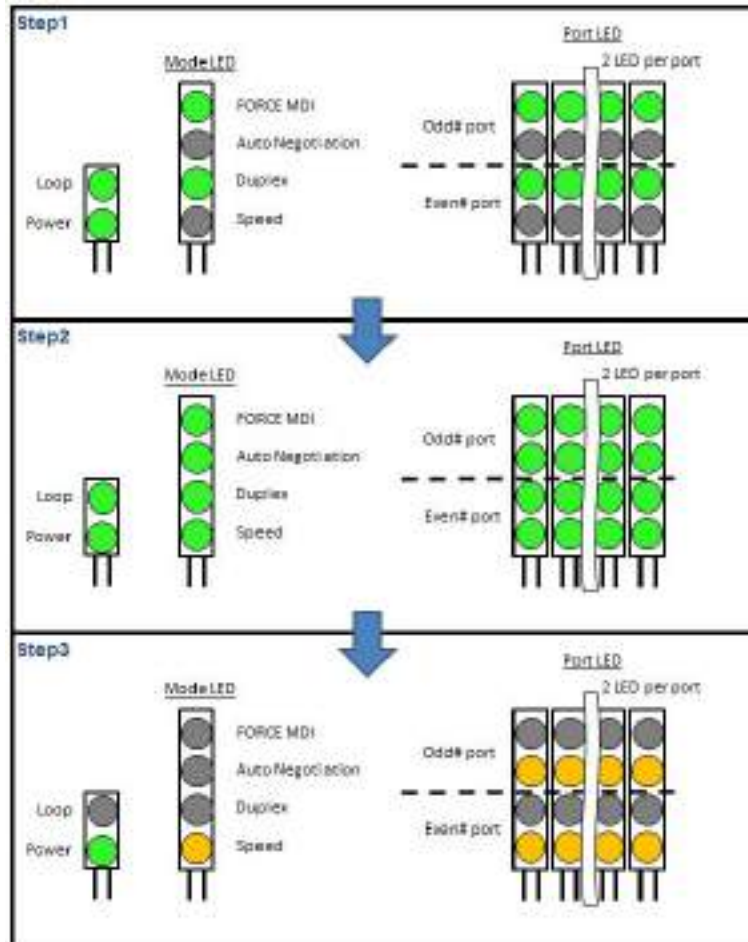

Figure 29. Initial Power-ON Sequence
3. The switch LEDs display an initial Power-ON sequence. See Figure 29.